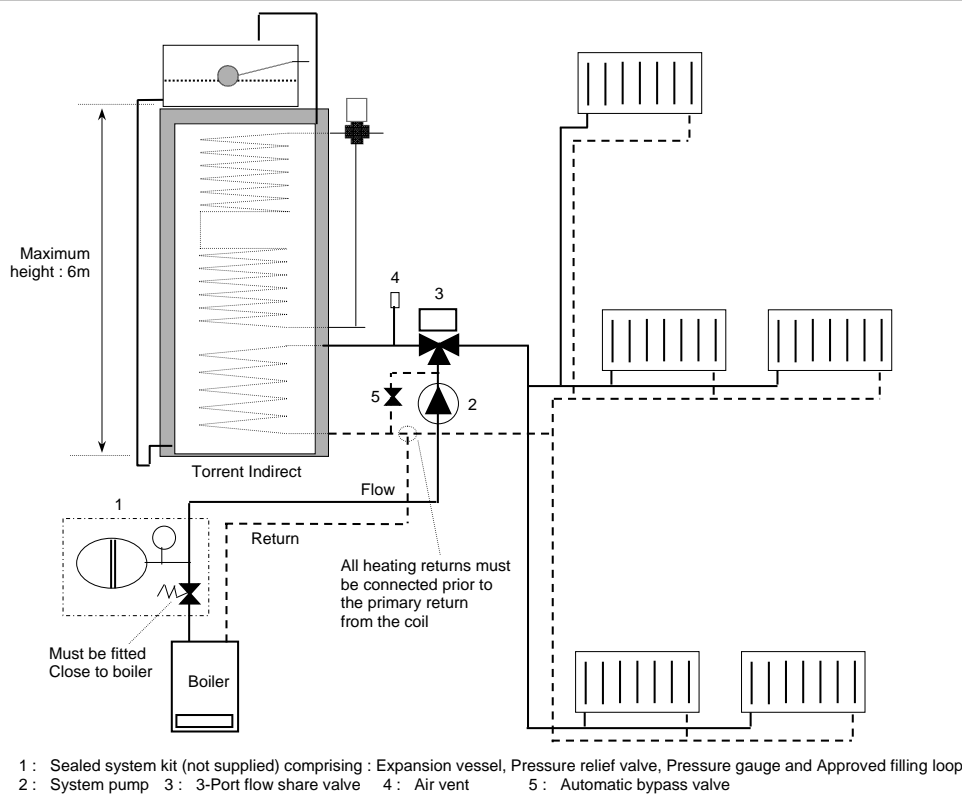

Figure 4.5 Torrent Indirect SP: Typical 'Y' plan sealed heating system
- (a) All Torrent Indirect 'SP' models are suitable for sealed heating system up to 3.0bar maximum operating pressure. The typical layout of the open vented 'Y Plan' and 'S Plan' for the indirect Torrent models is shown in figures 4.5 and 4.6 respectively.